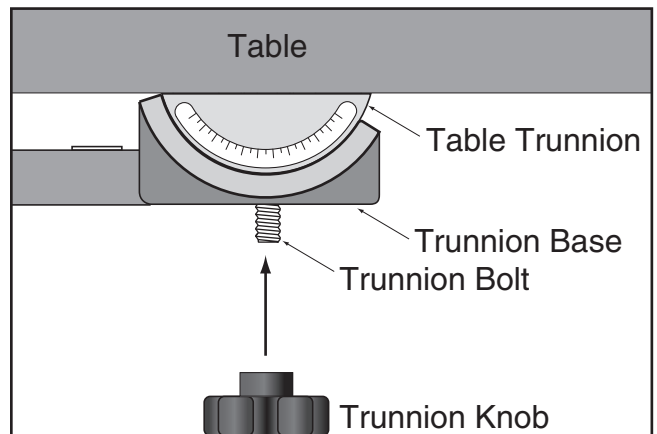

Figure 8. Table installation on trunnion base.
9. Thread the two table trunnion knobs onto the trunnion bolts, as illustrated in **Figure 8**.